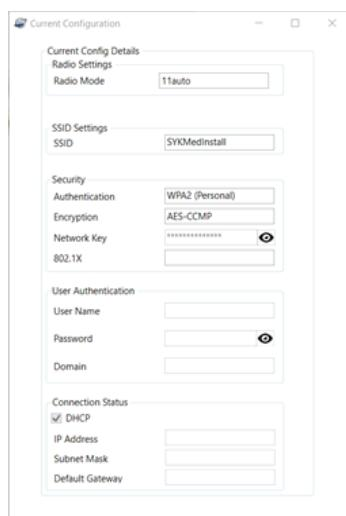

Figure 108 –
8. For the selected device, click **Get Config** in the Auto Scan window and wait for the device info window to pop up (Figure 108).